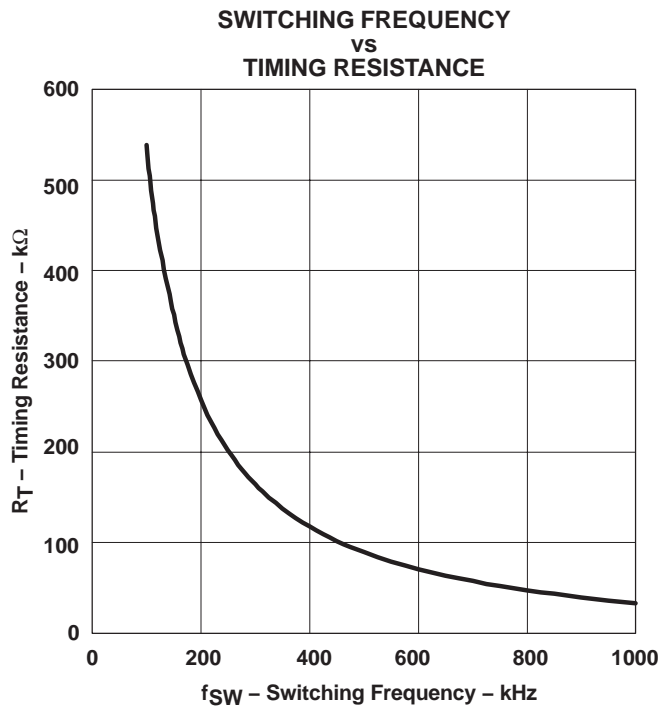

Figure 2
The TPS4005x has independent clock oscillator and ramp generator circuits. The clock oscillator serves as the master clock to the ramp generator circuit. The switching frequency,  $f_{SW}$  in kHz, of the clock oscillator is set by a single resistor ( $R_T$ ) to ground. The clock frequency is related to  $R_T$ , in k $\Omega$  by equation (1) and the relationship is charted in Figure 2.